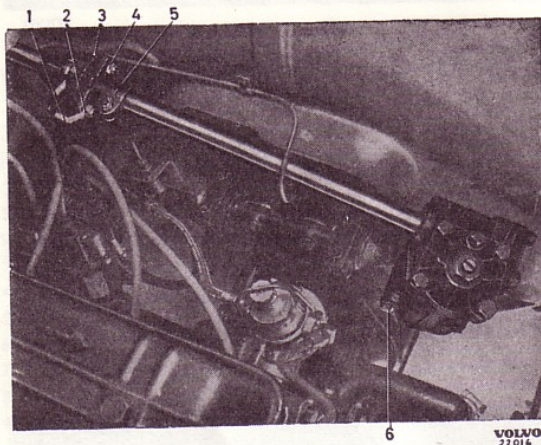

Fig. 30. Steering box.
2. Unscrew the two nuts (2 and 4, Fig. 30) and remove the bolts.
4. Unscrew and remove the three attaching bolts (6, Fig. 30).
1. Wash the steering box clean externally and remove the clamp (5, Fig. 30) from the steering column.
1. Place the steering box in position. Be careful when moving the clamp past the brake line. Fit the attaching bolts (6, Fig. 30).
2. Assemble the clamp (5) to the coupling disc (3). Do not forget the earth lead (1).
3. Adjust the position of the steering box so that there is the least possible strain on the coupling disc, i.e. the upper and lower sections of the steering column should form a straight line. Tighten the attaching bolts (6).